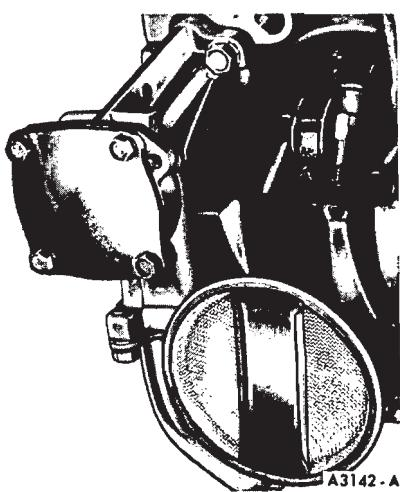

FIG. 59—Oil Pump and Inlet Tube Installed
4. Clean and install the oil pump inlet tube and screen assembly (Fig. 59).